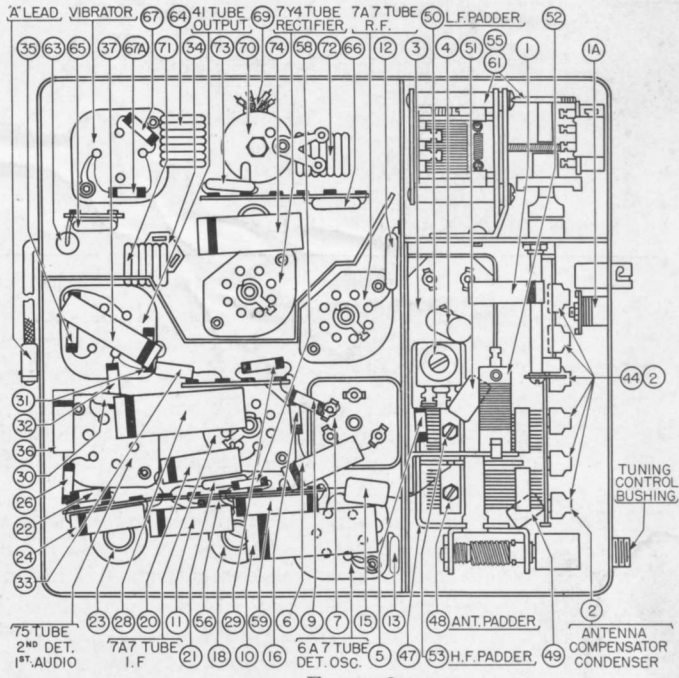

FIGURE 2
NOTE 5 — When installing the radio in the car, follow the installation instructions carefully. Tune in a weak broadcast signal between 1200 and 1400 Kilocycles on the control scale. Remove the plug button on the end of the radio and adjust the antenna compensator ② (See Figure 2) for maximum signal.